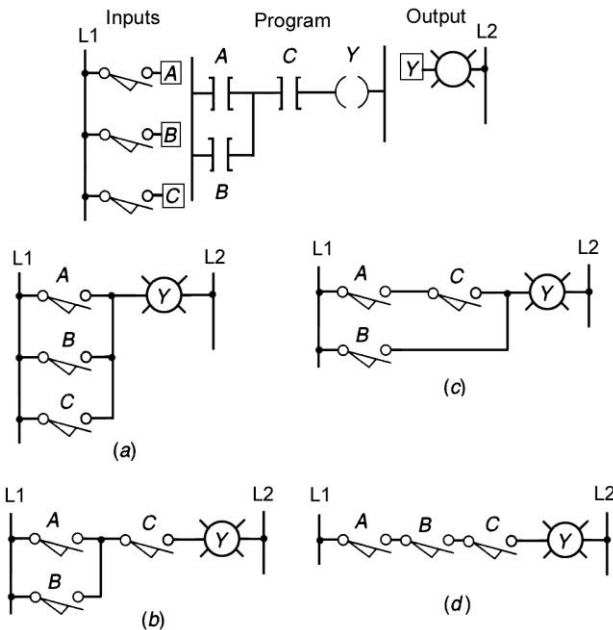

Figure 4-12 Hardwired circuits for question 21.
21. Which of the hardwired relay schematics of Figure 4-12 is being implemented by the PLC program shown? 21. _____